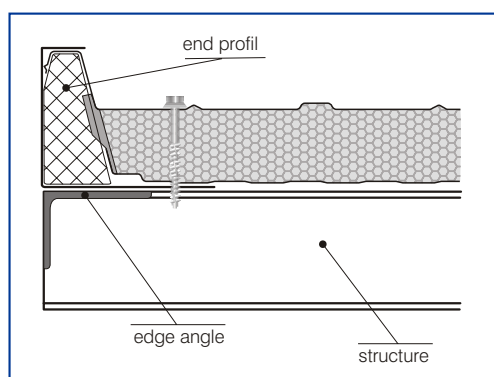

Fig. 11
- 4.1.4.3 For the first panel carry out the fixing downstream of the first fret for each underlying purlin (Fig.11).